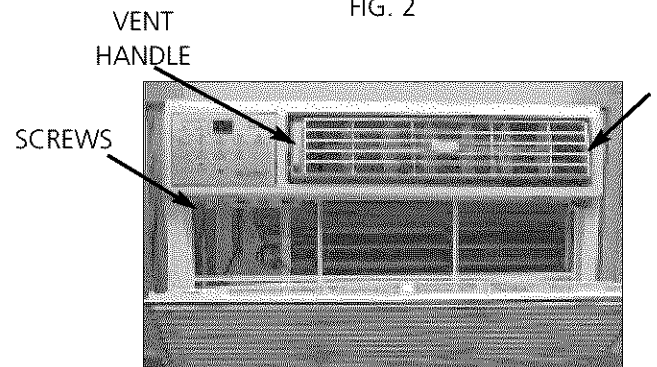

FIG. 3
- As you install the front frame to the unit be sure the vent handle is positioned through the front in the proper location (Fig. 3).
- Install front retaining screw(s) behind the filter and panel (Fig. 3).